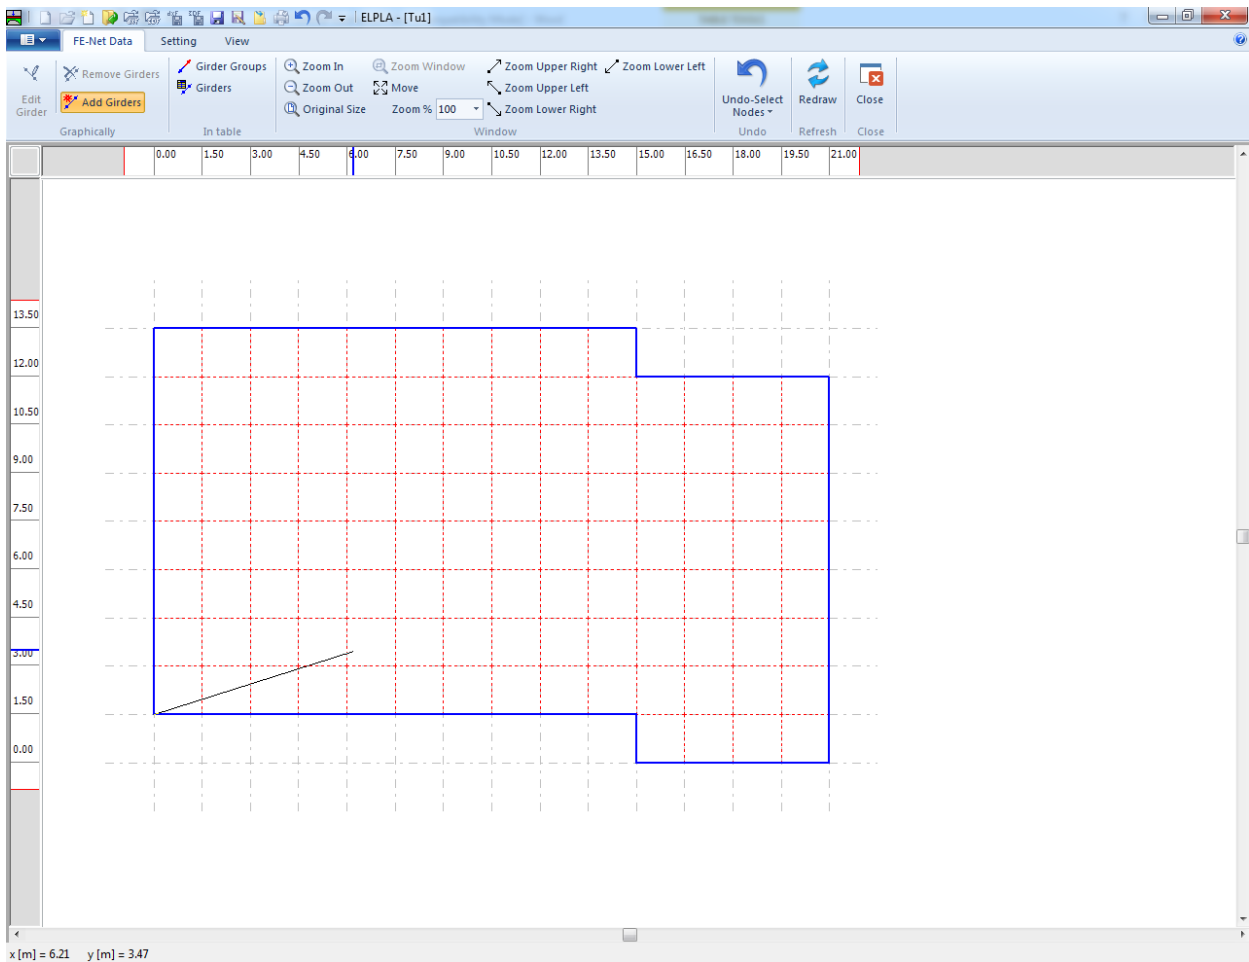
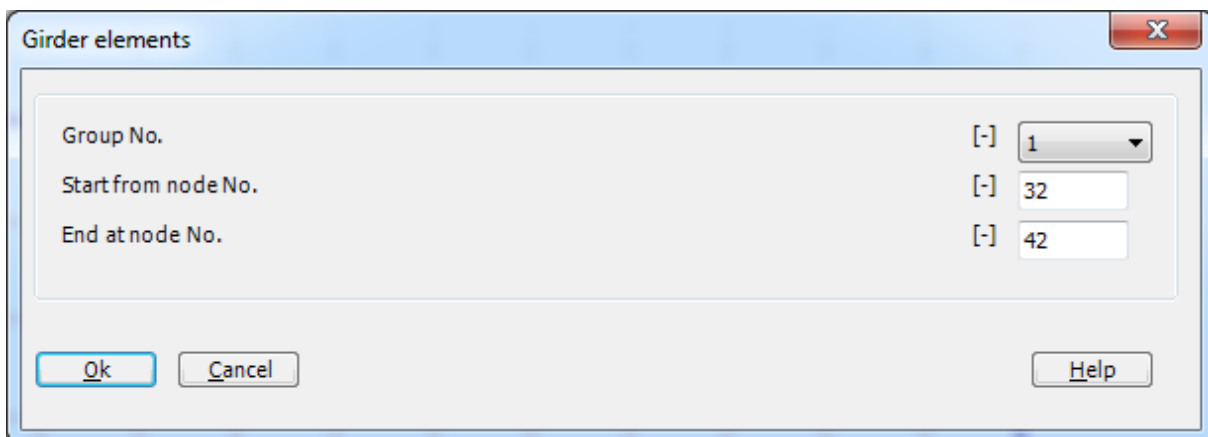

Figure 13.17 Add girder by mouse
Figure 13.18 "Girder elements" dialog box
- Click the left mouse button on the start node of the first girder and drag the mouse until the end node of that girder (Figure 13.17). Then, click on the end node. The "Girder elements" dialog box in Figure 13.18 appears